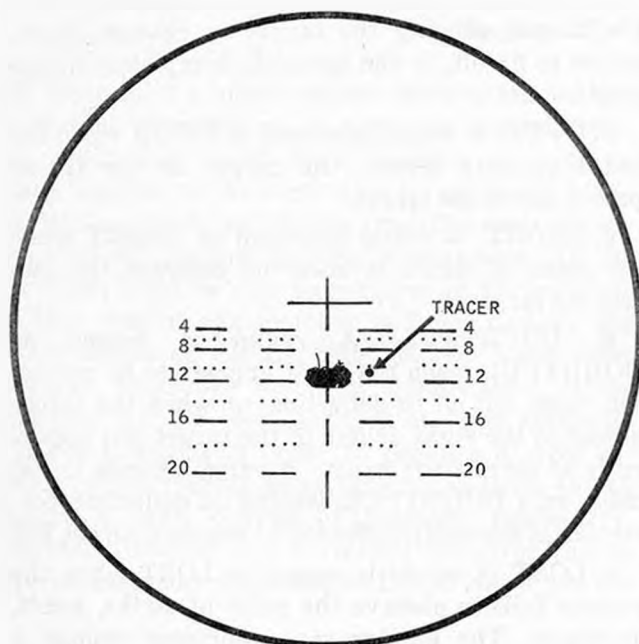

Figure 27. Stationary target, first round sight picture.
(1) The gunner immediately re-laid after firing the first round so that the burst appeared on his sight reticle in its proper relation to the target. This round was off in deflection to the right (fig 27).